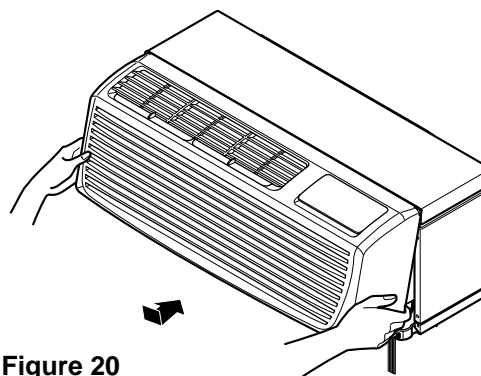

Figure 20
4. Reinstall the front grille by hooking the top over the unit top, then pushing it in at the bottom. (See Figure 20)